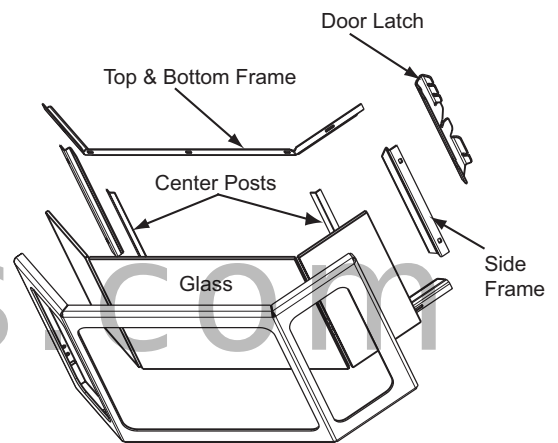

Figure 27.2
- Using a nut driver remove the (5) bottom nuts and remove the bottom glass frame. **Figure 27.2.**